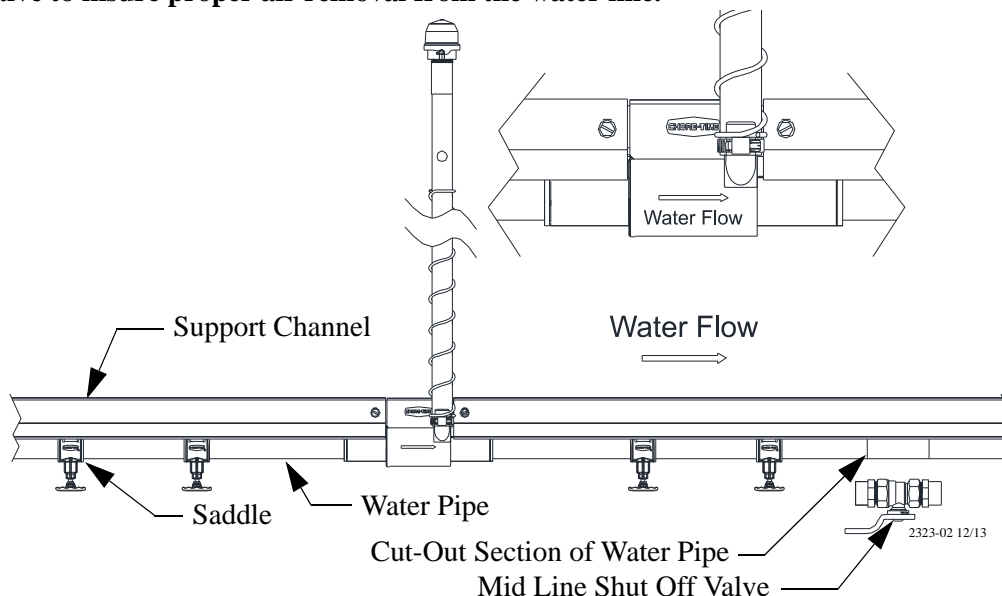

Figure 13. Mid Line Shut-Off Valve Installation
3. Use PVC pipe cutters to cut a section out of the water pipe. See **Figure 13**. The shut-off valve may be used as a template to determine the required size of the cut.